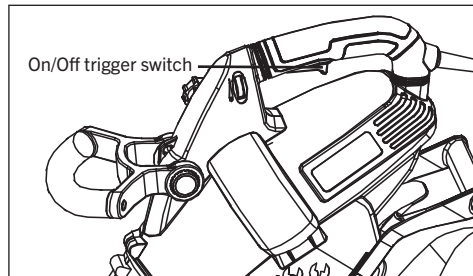

FIG. 13
2. To start the unit, press the On/Off trigger switch (Fig. 13).
3. To stop the tool, release the On/Off trigger switch (Fig. 13).